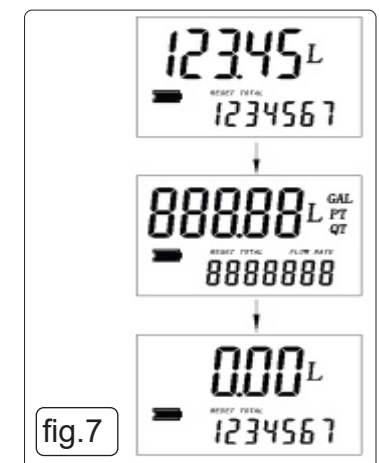

fig.7
- 5.4.4. To RESET current total (fig.7)
- 5.6.1. Wait for meter to go to standby (fig.7).